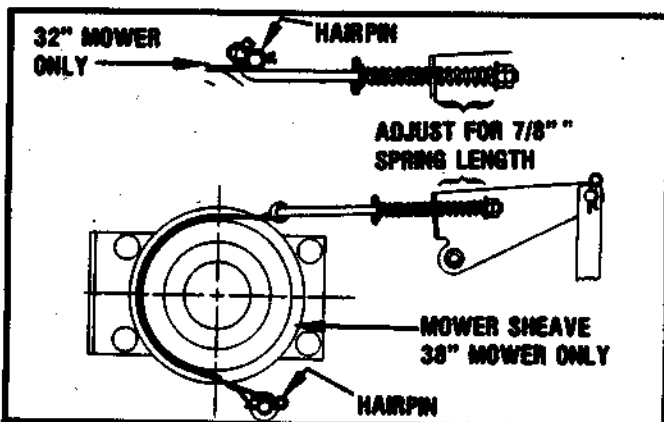

FIGURE 18
MOWER BELT REPLACEMENT & ADJUSTMENT — FIGURES 18 & 19
3. Remove the hairpin or cotter pin securing the brake band and rotate the band away from the sheave. See Figure 18.
1. Position the replacement mower belt around the sheave on the mower pan. Reposition the brake band around the sheave and secure with the cotter or hair pin. See Figure 18.
MOWER BRAKE ADJUSTMENT — FIGURE 18
With the mower belt adjusted and the Implement Power Clutch disengaged, adjust the nut on the end of the brake rod until the spring is 7/8" in length. See Figure 18.